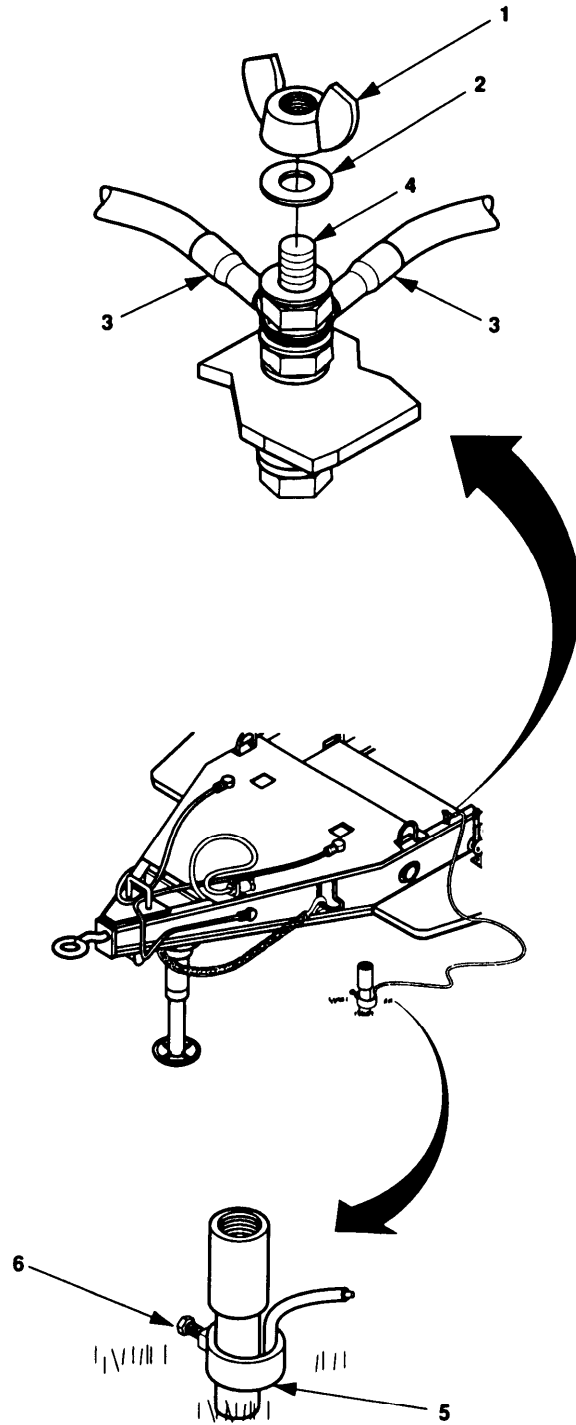

Figure 2-4 Typical Ground Rod Installations.
**2-3.3 Grounding of Generator Set.** Ground the equipment in accordance with Army Field Manual FM 20-31. Typical ground rod installations are shown in figure 2-4. If a ground rod is used, install and connect it as follows:
- (1) Remove and retain wing nut (1 figure 2-4) and washer (2) from trailer ground stud (4) and install ground cable terminal (3) to ground stud (4).
- (2) Install washer (2) on ground stud (4).
- (3) Thread wing nut (4) on the ground stud (4) and tighten.
- (4) Insert ground cable end into ground cable clamp (5) and tighten clamp screw (6).